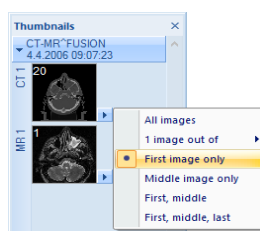

Figure 33 – First image only display (all separated series mode)
- **First image only** - the first image of the series of the selected study is displayed (see Figure 33).